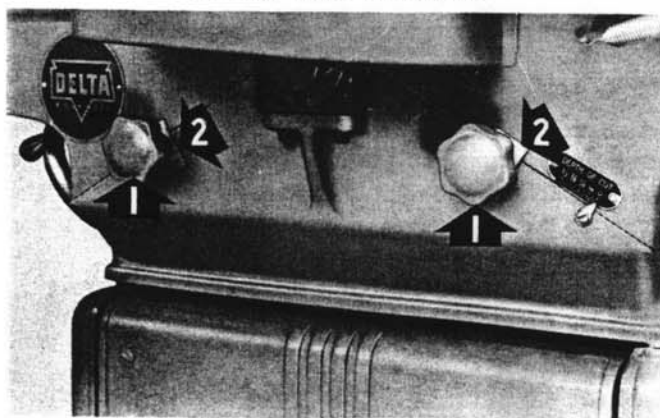
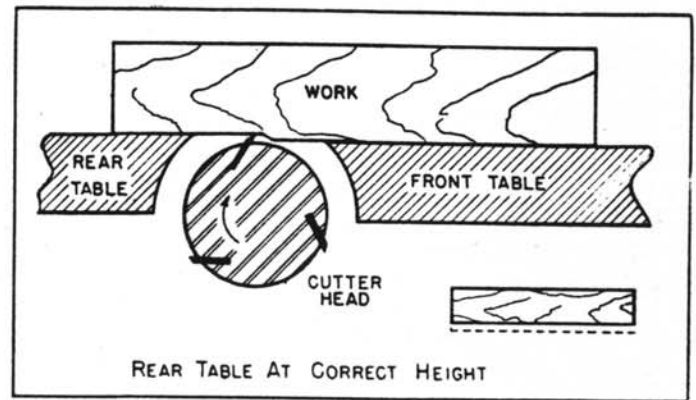

Figure 3
Figure 4
To raise or lower the tables, loosen lock knob (1) Fig. 3, and turn handwheel. Tighten lock knob after table is set at desired position.
IMPORTANT:— The rear table must be set AS HIGH as the top of the cutting circle, see Fig. 4. Raise or lower if necessary and set pointer to "0", See Fig. 3.